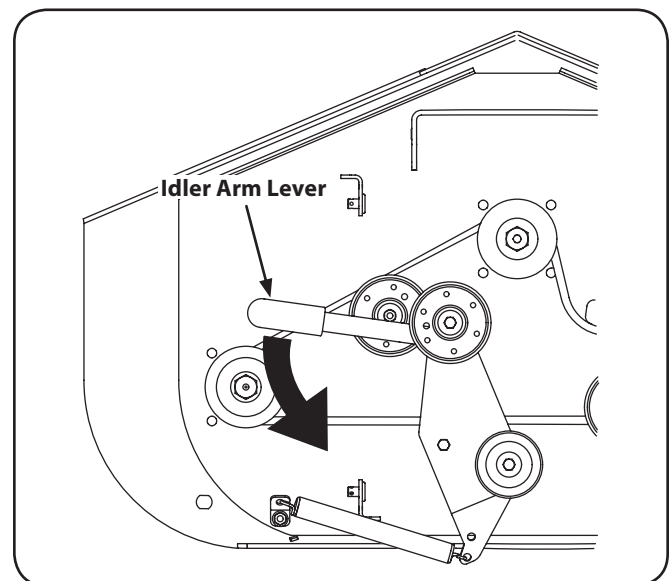

Figure 1-2
3. Reduce the tension on the PTO belt by moving the idler arm lever toward the back of the tractor, then remove the belt from the pulley. See Figure 1-2.